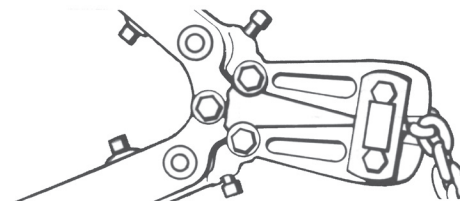

Figure 12. Cutting Chain with a Bolt Cutter
3. Use a bolt cutter (Figure 12) similar to the H.K. Porter No. 0590MTC with special cutter jaws for cutting hardened chain (25.4mm-1 inch) long cutting edge.